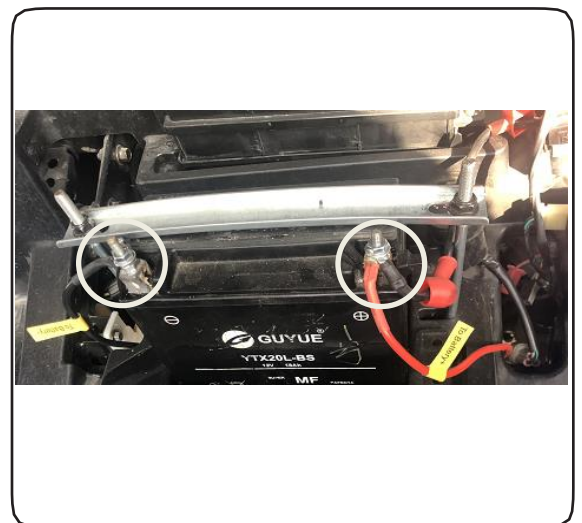

Figure 2-10
2. As shown in figure 2-10, unscrew the two nuts on the battery and connect the main cord on the wire harness of the controller into the battery.